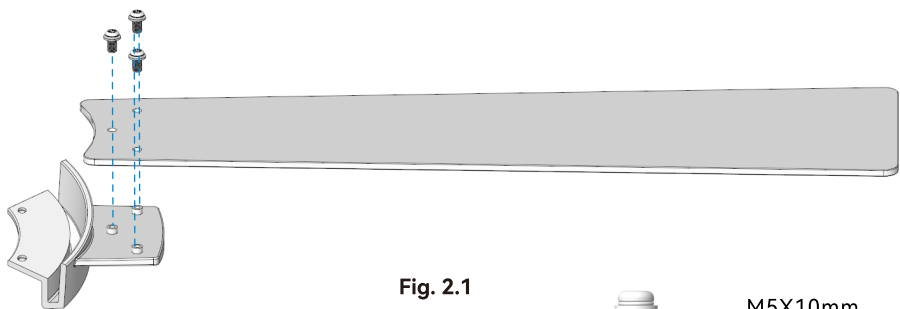

Fig. 2.1
- 2.1 Locate the 15 blade attachment screws included in the hardware pack. Use these screws to firmly attach each blade to the blade bracket, as demonstrated in Fig. 2.1.